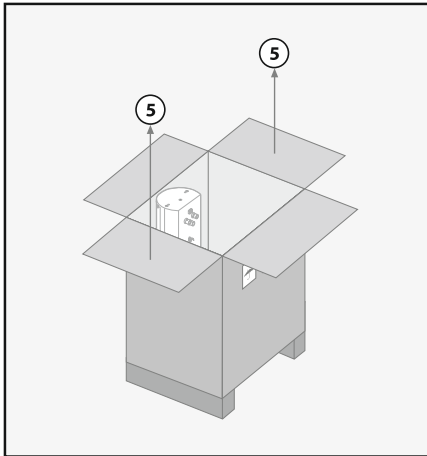

Figure 1.10: Lift the top carton.
5. Lift the top carton vertically off the pallet (see Figure 1.10).